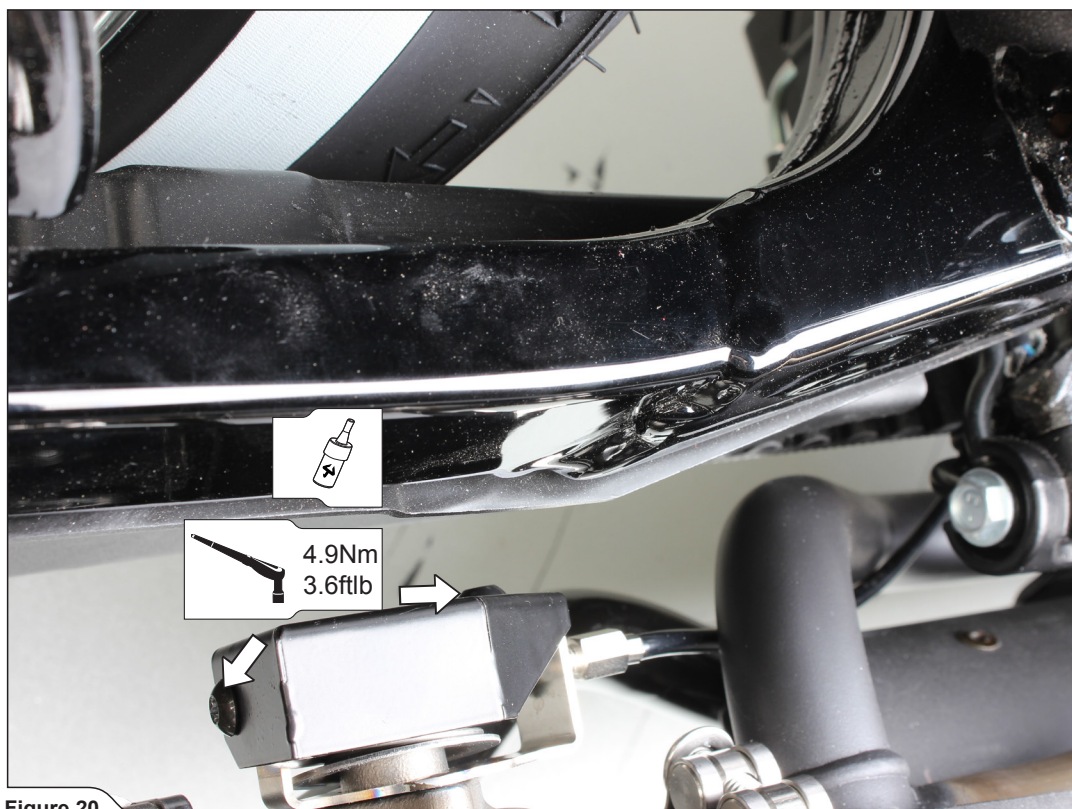

Figure 20
13. Assemble the valve cover onto the rear exhaust valve (Figure 20).